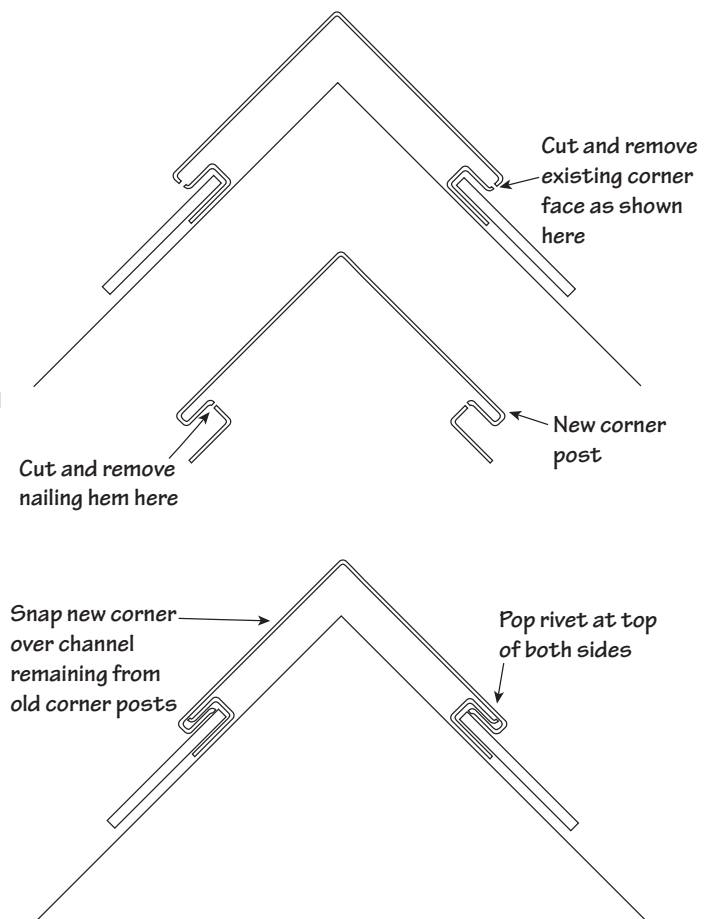

Figure 80.
- Remove the nailing hem from the replacement corner (Fig. 80).